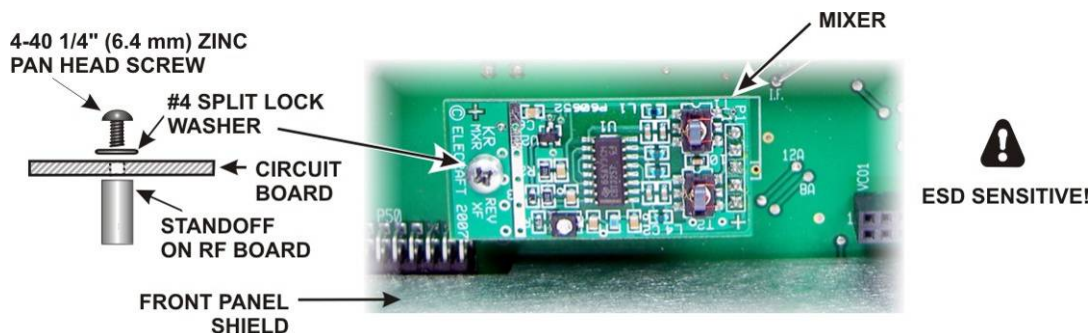

Figure 40. Installing Mixer Board.
□ Mount the K3S mixer board on the RF board as shown in Figure 40. The mixer plugs into Z1 on the RF board.